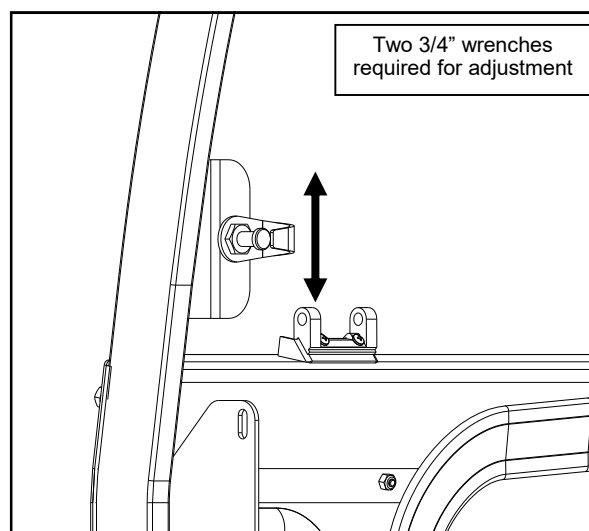

Fig. 17.3a (Door Striker Pin Adjustment)
- Adjust the striker pin on the side frame vertically - See Fig. 17.3a